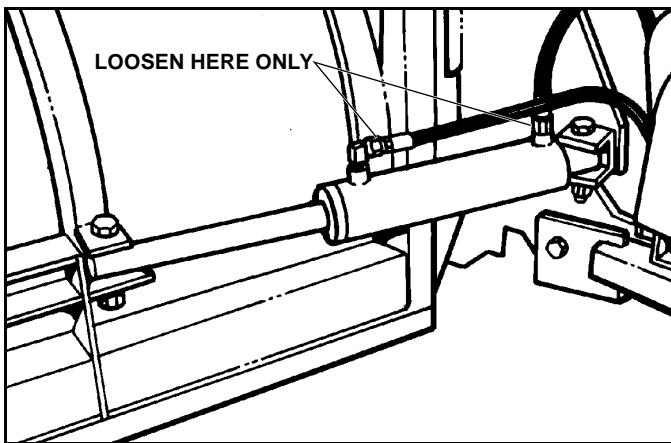

Figure 2-4
*NOTE: Do not loosen fitting in cylinder body. Loosen only at connection with hose. (See Figure 2-4)*